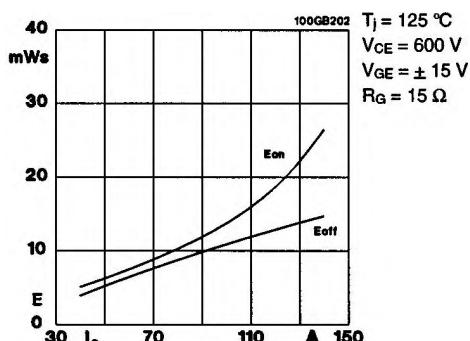

Fig. 2 Turn-on /-off energy  $E = f(I_c)$
5) See fig. 2 + 3;  $R_{Goff} = 15 \Omega$